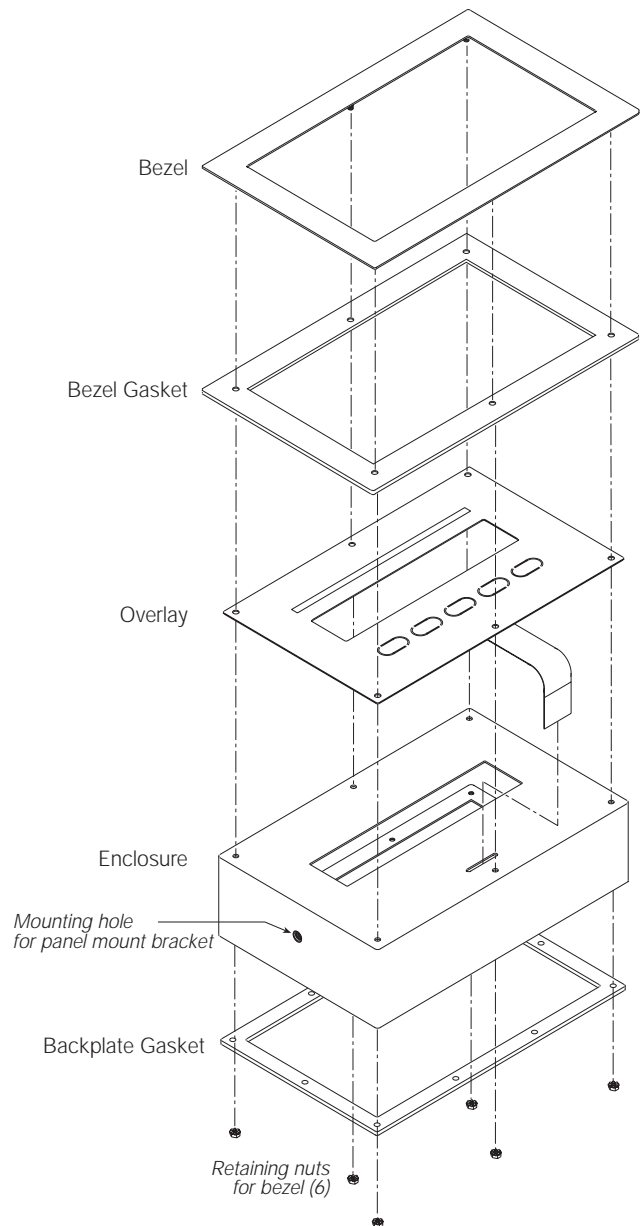

Figure 2. IQ plus 350 Bezel and Gasket Replacement
6. Fit the panel mount gasket and bezel to the front of the indicator then replace the nuts removed in step 4. (Washers removed in step 4 are not used.) See Figure 2.